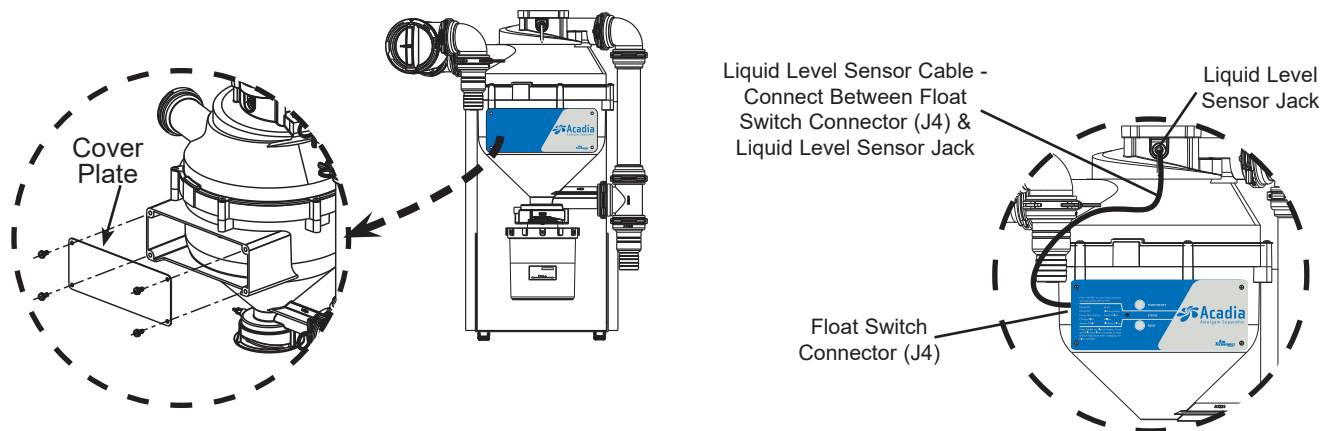

Figure 18. **Acadia Alert** Monitor Panel Assembly Installation and Liquid Level Sensor Cable Connection
4. Connect the unconnected end of the Liquid Level Sensor Cable to the Liquid Level Sensor Jack located on top of the separator. Figure 18 shows the **Acadia** Amalgam Separator with the **Acadia Alert** Monitor Module installation completed.